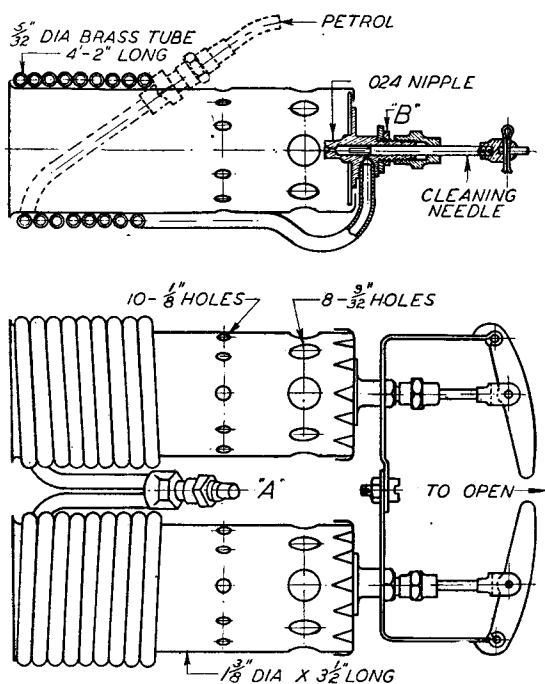

Fig. 12. Original twin blowlamp.
The lamps, during 1939, gave very little trouble, as they are based on the most successful one developed in 1938 for *Tich I*. Fig. 12 shows the twin lamps as first made. Each one consists of a flame tube $1\frac{3}{8}$ dia., $3\frac{1}{2}$ in. long of tin plate on which is wound 50 in. of $5/32$ dia. brass tube, one end of which is brazed to the nipple unit and the other to a dual fitting, A, carrying a union for the main petrol pipe.
4. Provide a means of coupling the two lamps and supporting them in the boat, e.g., by a locknut such as shown at B, Fig. 12.